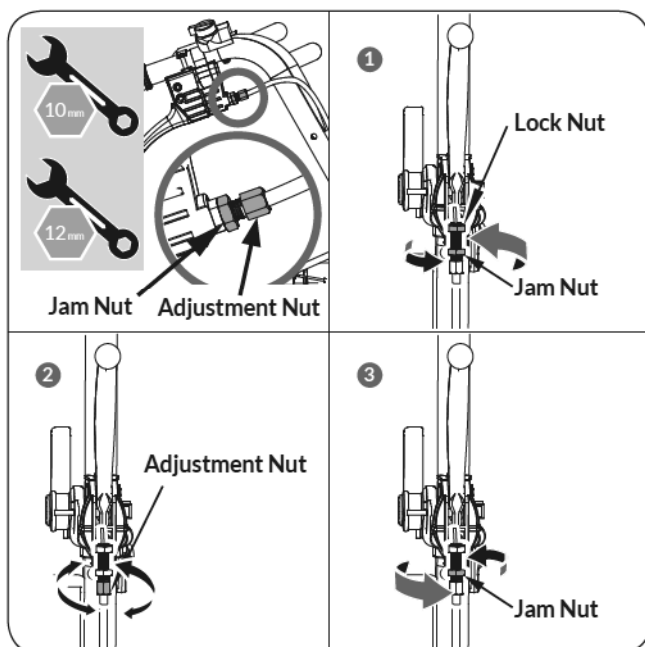

Figure 10b
1. Loosen the jam nut by turning it counter clockwise with 12mm wrench. (see **Figure 10b, Illustration 1**)
2. Tighten or loosen the cable by turning the cable adjustment nut clockwise or counter clockwise with 10mm wrench until you have reached your required tightness. (see **Figure 10b, Illustration 2**)
3. Once tightness is set, return the jam nut against the handle to hold the cable in place. (see **Figure 10b, Illustration 3**)